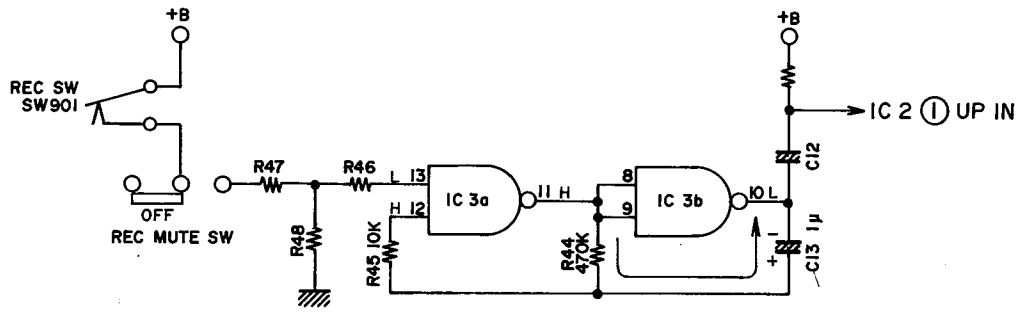

Fig. 10 Oscillation Stopped
4. OSCILLATOR CIRCUITRY FOR REC TIME COUNT (Refer to Figs. 10 and 11)
When the Rec Mute button is not depressed, IC3a's input terminal ⑬ is "L" and IC3b's output terminal ⑩ is "L". C13 has been discharged as in Fig. 10 and IC3a's input terminal ⑫ is changed to "H" by this potential.